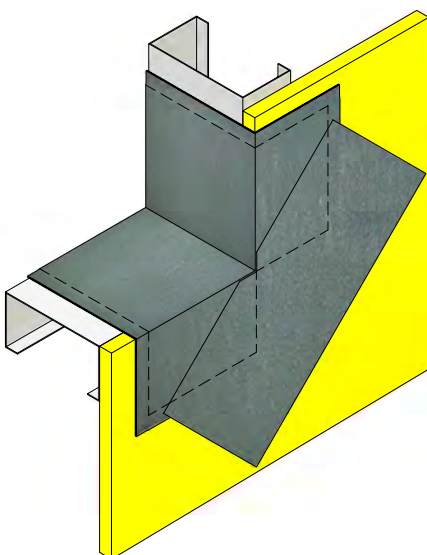

Figure 8
4. Apply additional ACROSTOP-R over the areas to receive additional SHEATHING FABRIC. (See Figure 8)